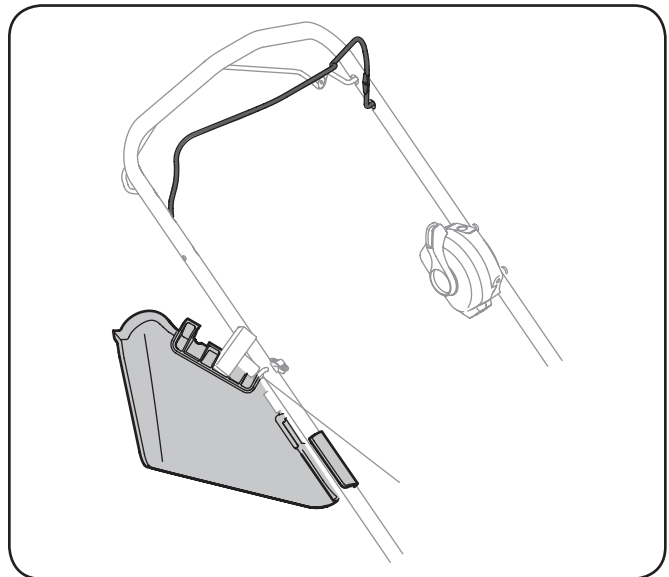

Figure 7-6
- Your side discharge chute may be equipped with a special clip, secure this type of chute to the handle as shown in Fig. 7-6.